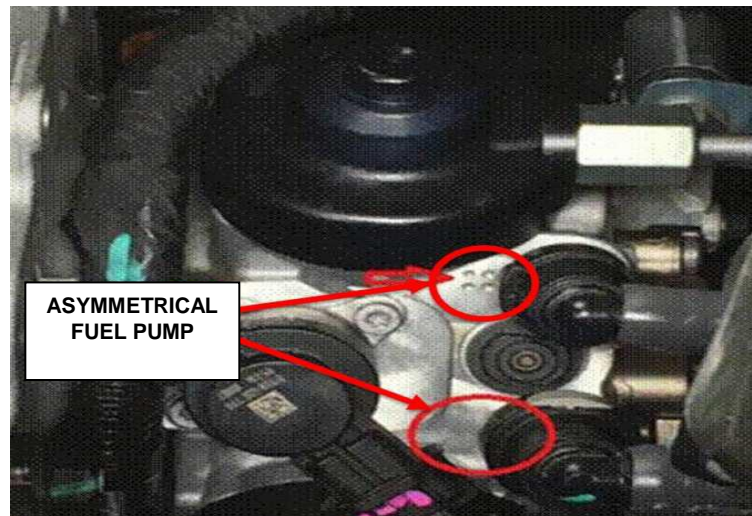

Figure 2 – Asymmetrical Fuel Pump
- Vehicles with the old style **Asymmetrical** pump will have multiple dots embossed in the pump housing (Figure 2).
- For vehicles with an **Asymmetrical** pump, choose the calibration labeled **Asymmetric** or **Asym Pump** (Figure 2).